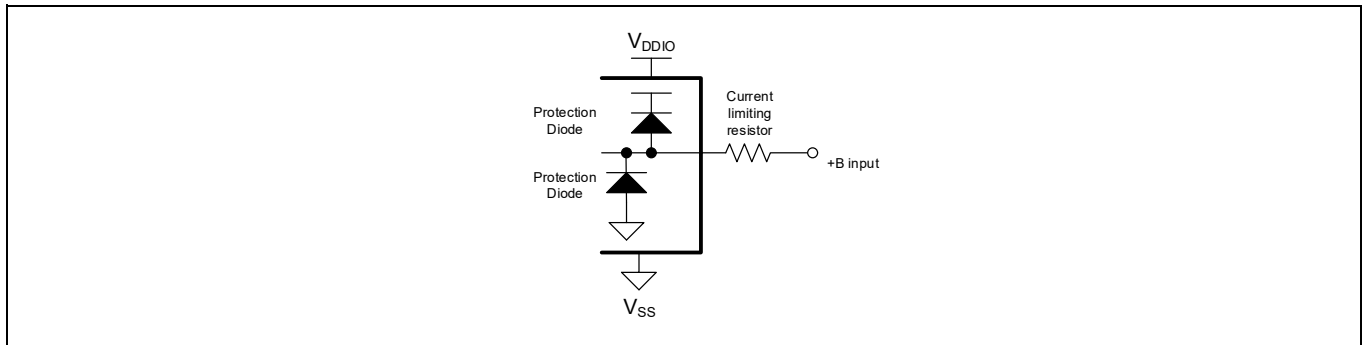

Figure 26-1 Example of a recommended circuit^[56]
44. A current-limiting resistor must be provided such that the current at the I/O pin does not exceed rated values at any time, including during power transients. Refer to Figure 26-1 for more information on the recommended circuit.
44. A current-limiting resistor must be provided such that the current at the I/O pin does not exceed rated values at any time, including during power transients. Refer to **Figure 26-1** for more information on the recommended circuit.